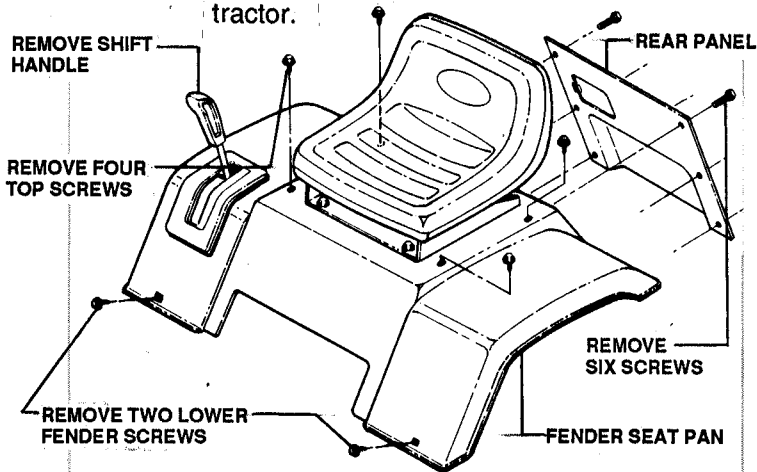

**FIGURE 16**
- **FRONT AXLE PIVOT & SPINDLE BUSHINGS:** Lubricate the center pivot fitting on underside of the front axle and each spindle fitting located on rear of front axle (toward operator). See Figure 16.